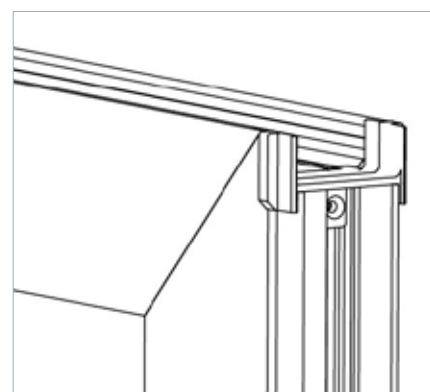

FIG 21
3. For 4 & 6 pane doors, end caps are fitted top and bottom of the slave door to close the gap where the sliding doors meet (FIG 21)